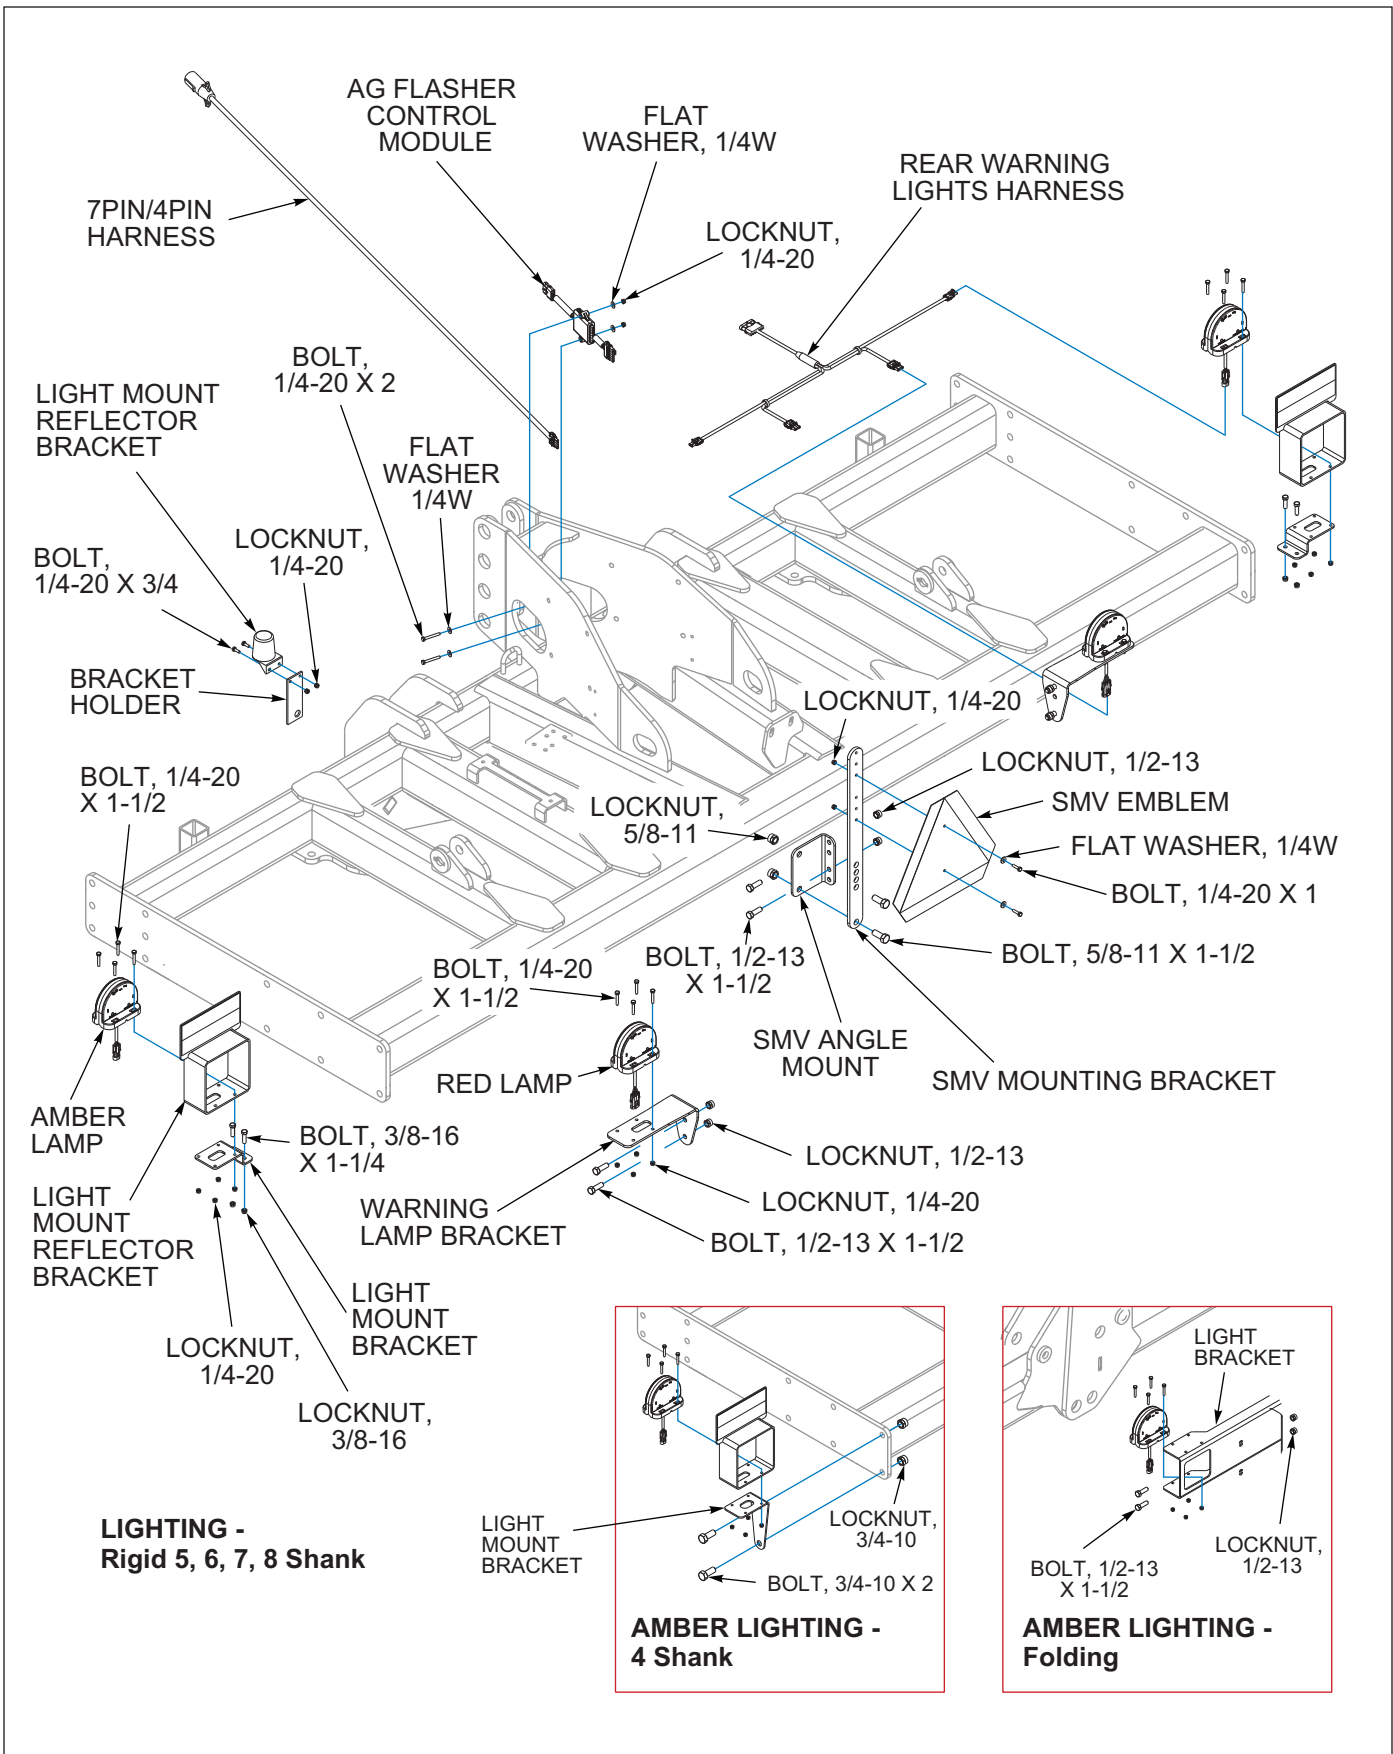

Figure 3-11: LED Light and SMV Bracket Installation
2. Attach SMV emblem to top of SMV mounting bracket using 1/4-20 x 1 hex head cap screws, Flat Washers, and Hex Locknuts (See Figure 3-11.)
1. Attach left and right (Amber) Light Mount Brackets to frame. (*See Figures 3-11 thru 3-12.*)